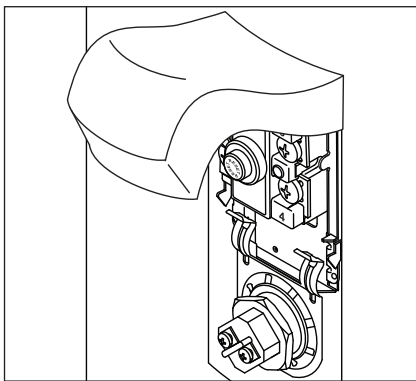

Figure 46 - Element Access Panel/ECO Compartment.
- 2 Remove the upper access panel on the water heater and carefully fold back the insulation and plastic element/ECO cover (Figure 46).